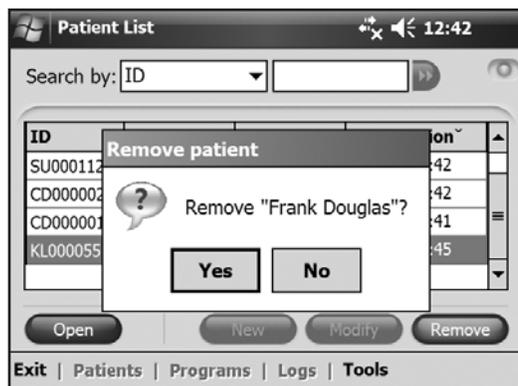

Figure 8-43: Remove Patient confirmation window.
4. The Remove Patient confirmation window will open. See Figure 8-43. Press **Yes**.